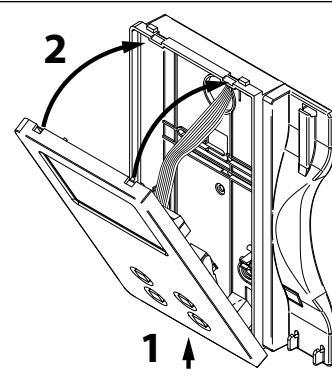

Fig. 6
- Once testing is complete and all the necessary adjustments are made, disconnect the handset from the cover and close the unit as shown in Fig. 6: first hook it on the bottom then push in the top until you hear a "CLICK!".